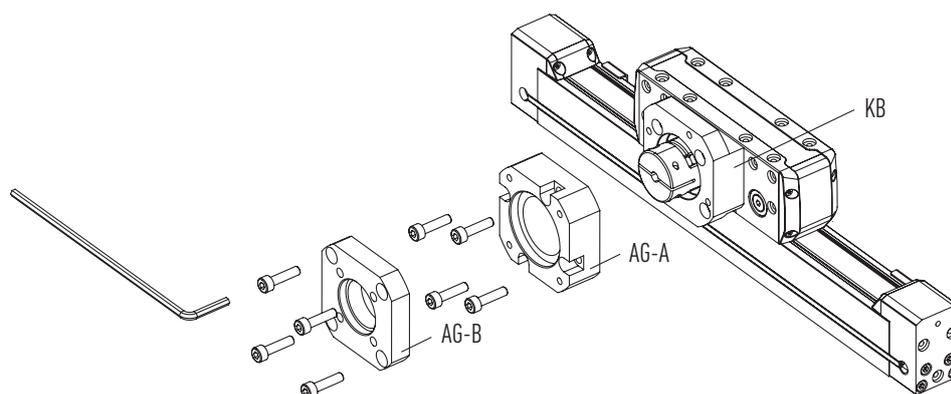

Fig. 6.93 Mounting the two-part gear adapter plate AG-A and AG-B – HC025B, HC040B
- ▶ Attach the first part of the gear adapter plate (AG-A) so that it lies flat (see Fig. 6.93). In doing so, note the position of the hole for the clamping hub's clamping bolt.
- ▶ Attach the second part of the gear adapter plate (AG-B) onto the first piece (AG-A, see Fig. 6.93).